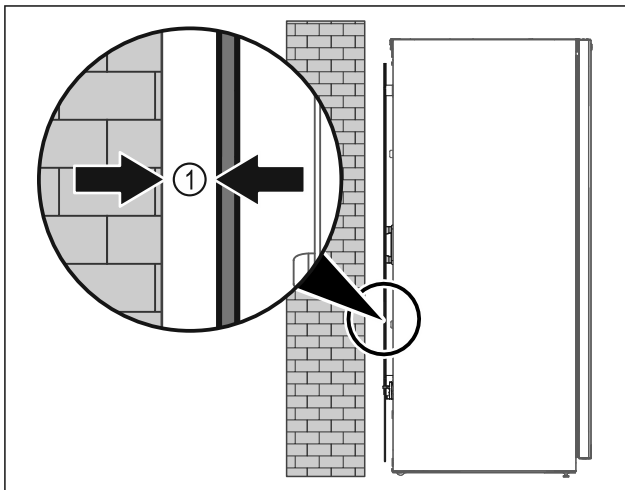

Fig. 47
- ▶ Set up the appliance either free-standing or directly against a wall at a minimum distance of 5 mm Fig. 47 (1).